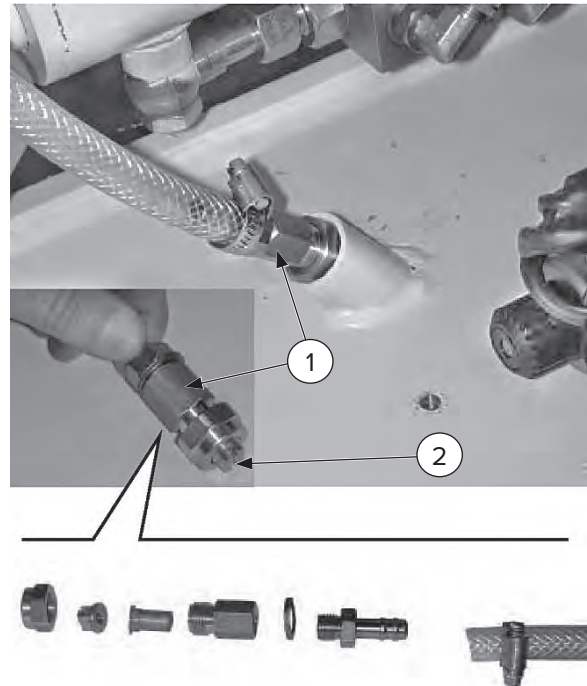

Figure 22
1. Check the water nozzles [Figure 22, Item 1] located on the attachment and clean them if necessary.